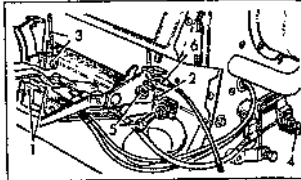

Fig. 12.15 The heater control connections (Sec 26)
- 5 Detach the control cables on each side of the heater unit then remove the controls, which are secured by a retaining bolt and nut on each side (Fig. 12.15).